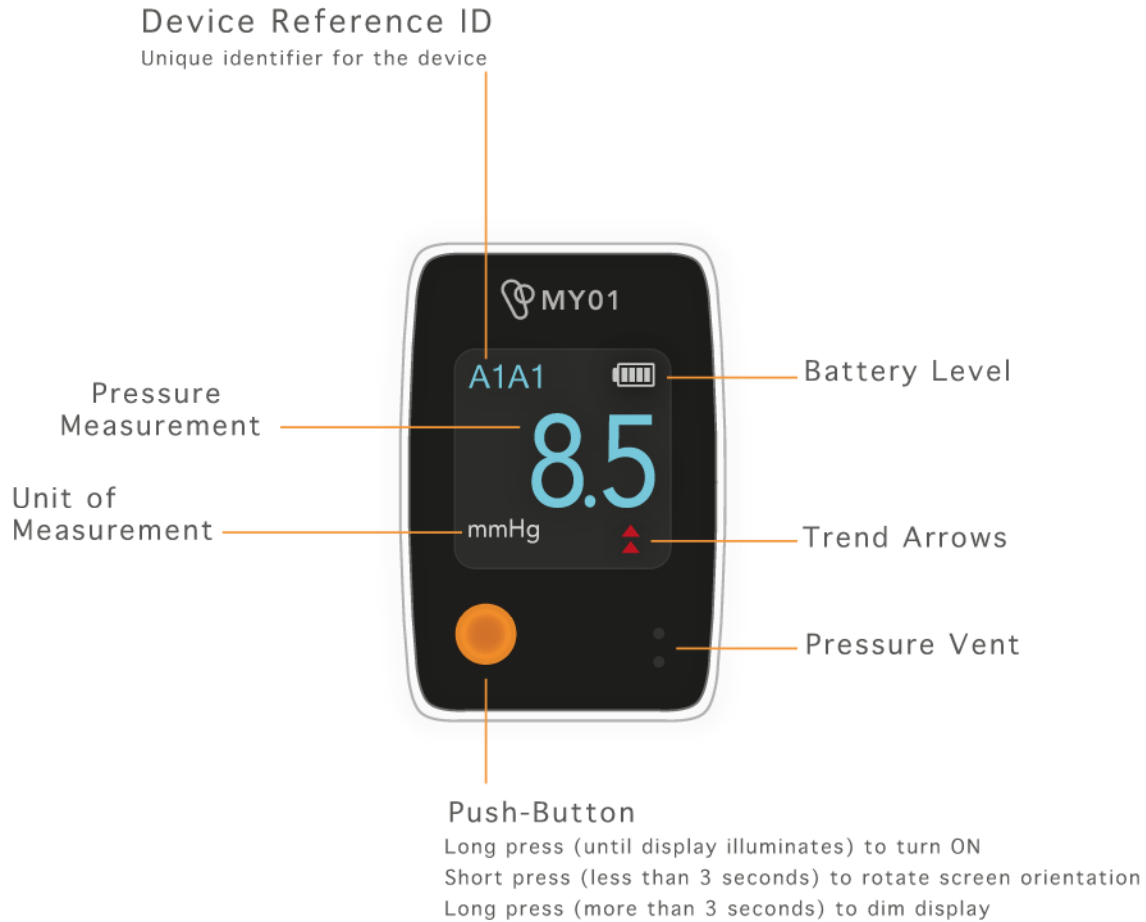

Figure 5 : Device Controls and Display Icons
- Always keep the Pressure Vent on the bottom-right of the screen unobstructed (see Figure 5).
- Do not re-apply the adhesive. Additional medical tape should be used if the location of the Device Body is changed after the first application. Ensure that the Pressure Vent (see Figure 5) is not covered by the medical tape.